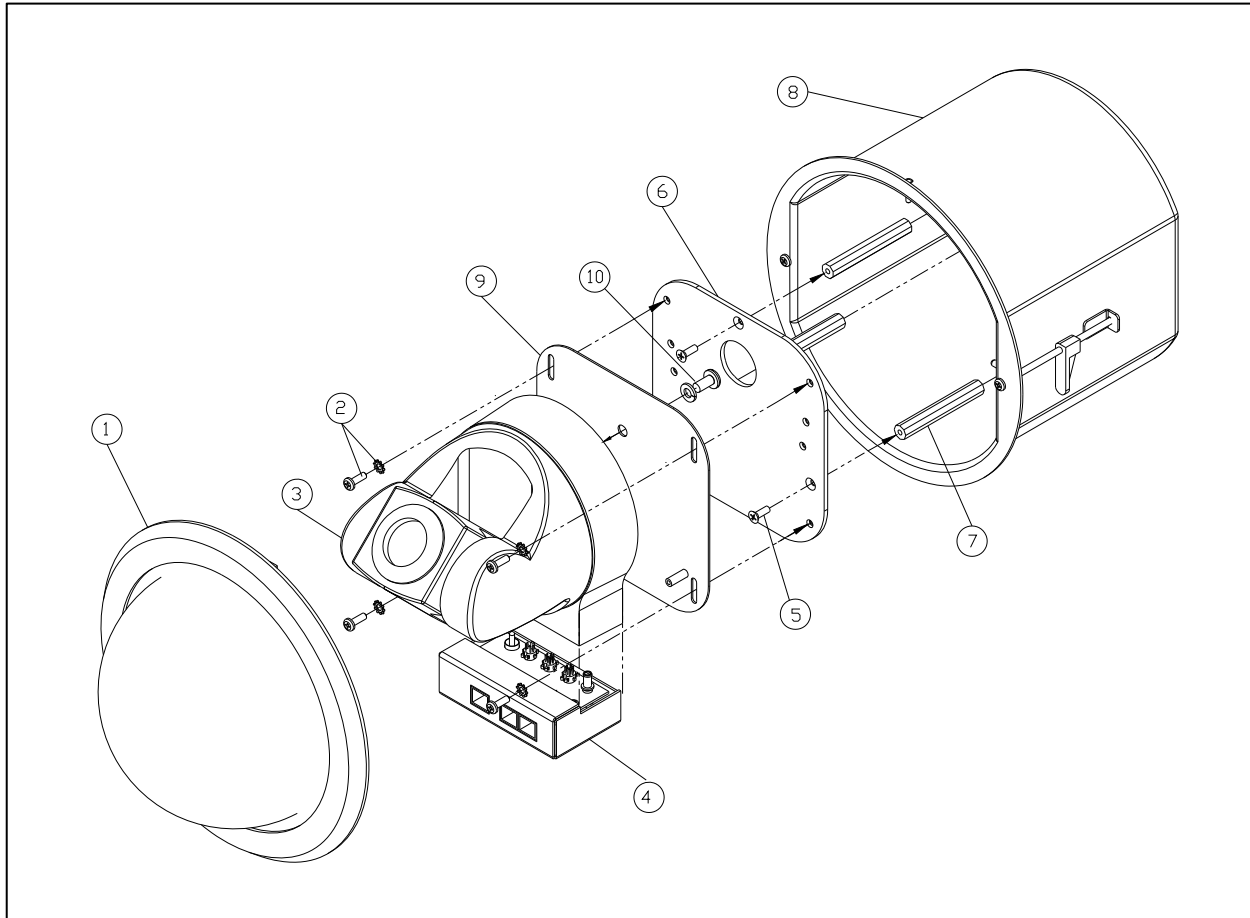

Figure 4: Exploded View of DomeVIEW Flush Mount Dome for Sony EVI-D70
- 9) Attach the EZCamera Cabling Shoe (4 – Figure 4) to the Sony EVI-D70.
- 10) Attach the Camera Base Plate (9) to the camera (3) with the provided 1/4"-20 x .5" screw (10).
- 11) Attach the camera (3) and camera base plate (9) to the camera mounting stage (6) with four 8-32 x .5" pan head screws (2) and four #8 lock washers (see Figure 4).